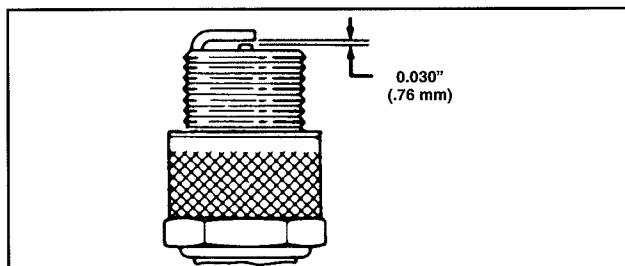

Figure 13
3. Set air gap at 0.030" (0.76 mm) (Fig. 13). Install correctly gapped spark plug and gasket seal. Tighten plug firmly to 15 ft-lb (20 N·m).